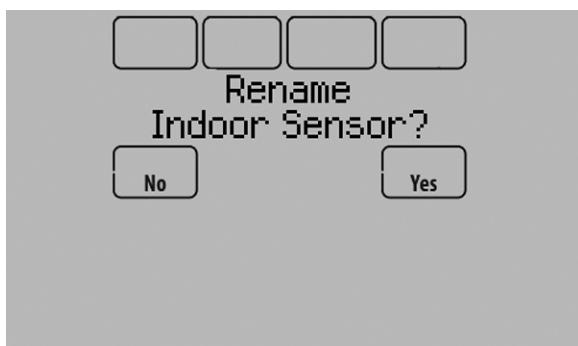

Fig. 53.
3. If you are installing more than 1 wireless indoor sensor, give each sensor a name as you install it. Press Yes when the “Rename Indoor Sensor?” screen is displayed, as shown in Fig. 53.